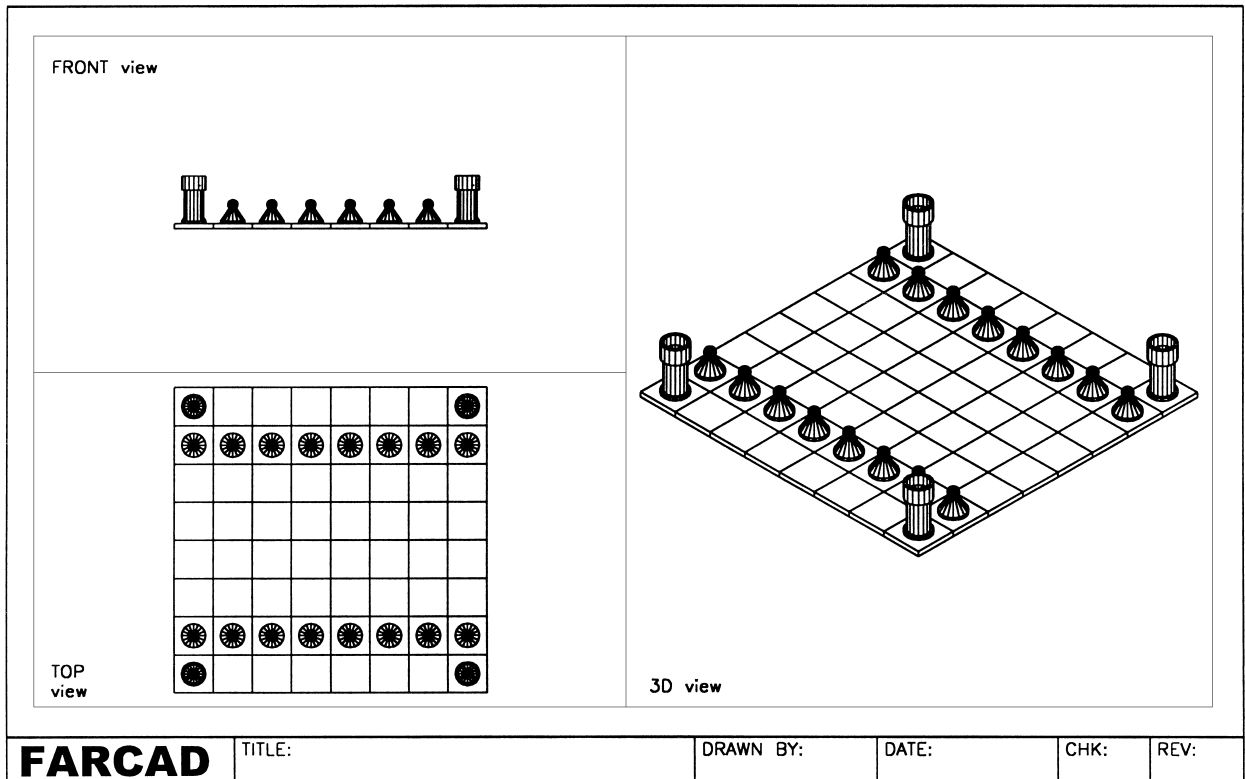

Figure 23.4 The chess layout after the block insertions.
- 10 When complete, the layout should resemble Fig. 23.4 and should be saved as **MODR2002\CHESS** for the activity part of the chapter.